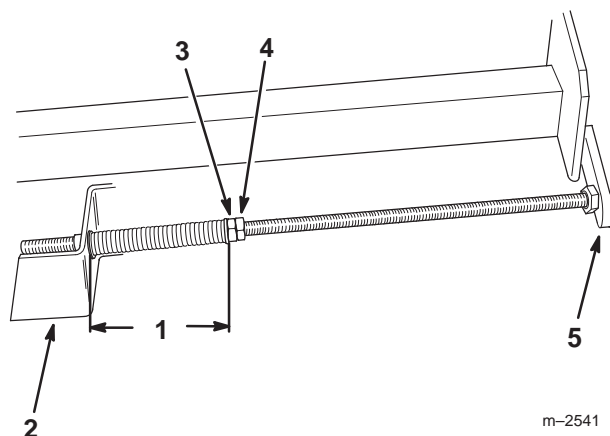

Figure 7
6. Insert the spring end of the adjusting shaft into the hole in the deck mounting bracket. Note that the small end of the bushing fits into the hole in the deck bracket. Insert the locknut end of the adjusting shaft into the carrier frame mounting tab (Fig. 7).
7. To tension the belt, tighten the front jam nut on each adjusting shaft until the springs are compressed to 5 inch (13 cm). Measure the spring compression between the spacer and the bushing (Fig. 7).
8. Tighten the rear jam nuts (Fig. 7).